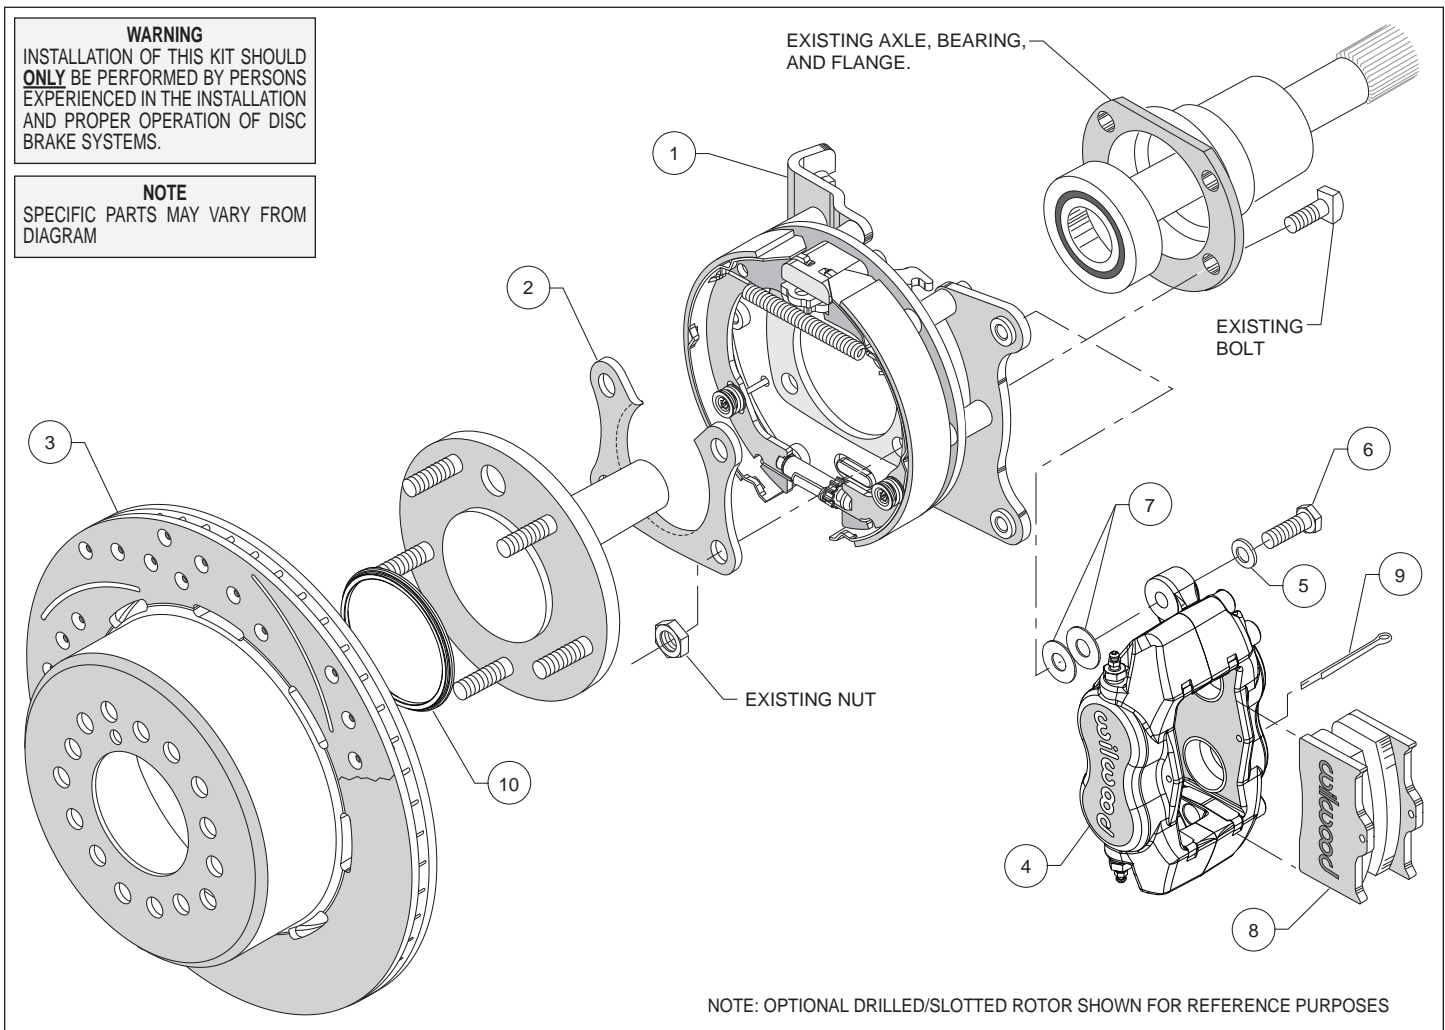
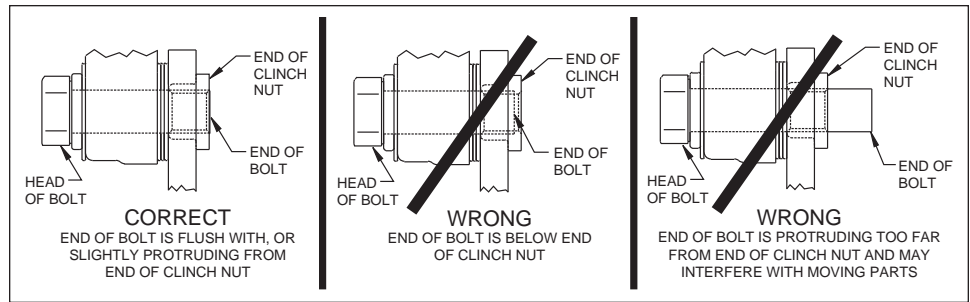

Figure 1. Typical Installation Configuration
Figure 5. Clinch Nut Engagement Diagram
**Assembly Instructions** (numbers in parenthesis refer to the parts list, and Figure 1 on the preceding pages): **CAUTION:** All mounting bolts must fully engage clinch nuts. Be sure to check that all bolts are either flush or protruding through flanged side of clinch nut after shimming, Figure 5.
- Orient the bracket assembly (1) as shown in Figure 1, and Photo 1, and slide it onto the axle. Insert the axle and bracket into the axle housing. Ensure that the bracket assembly backing plate fits flush against the axle housing flange.
- Install the bearing retainer (2) with the opening pointing upward and the lip facing inward (toward the bearing), as shown in Figures 1 and 4, and Photo 2. Secure retainer and bracket assembly to the axle housing flange using the Original Equipment Manufacturer (OEM) bolts and nuts, Figure 1. Apply red *Loctite*® 271 to the OEM bolt threads and torque to OEM specifications.
- Slide the rotor registration adapter (10) onto the axle register on the axle flange with the smaller O.D. facing toward the rotor/hat (3), Photo 3. Align the correct hole pattern in the rotor/hat with the stud pattern on the axle flange and slide into place, Figure 1 and Photo 4. **NOTE:** The rotor/hat must fit flush against the axle flange or excessive rotor run out may result. Install three lug nuts (finger tight) to keep the rotor/hat assembly in place while continuing with the installation. **NOTE:** Some OEM and after market axles come with stud sizes larger than 0.50" diameter. Verify stud size and have a qualified machine shop drill the bolt circle of the hat/rotor to the correct stud size, if necessary.
- NOTE:** Please reference the caution statement at the beginning of the assembly instructions. Mount the caliper (4) onto the caliper mounting bracket (1) using bolts (6) and washers (5), as shown in Figure 1. Initially place two .035" thick shims (7) on each bolt between the caliper and the bracket, Photo 5. Temporarily tighten the mounting bolts and view the rotor (3) through the top opening of the caliper. The rotor should be centered in the caliper, Photo 6. If not, adjust by adding or subtracting shims between the bracket and the caliper. Always use the same amount of shims on each of the two mounting bolts. **NOTE:** The end of each bolt must be flush with or slightly protruding from the head of the clinch nut, as shown in Figure 5. If necessary place spare shims between washer (5) and caliper mounting ear to achieve the proper clinch nut engagement. Once the caliper alignment and clinch nut engagement are correct, remove the bolts one at a time, apply red *Loctite*® 271 to bolt threads, and torque to 40 ft-lb.